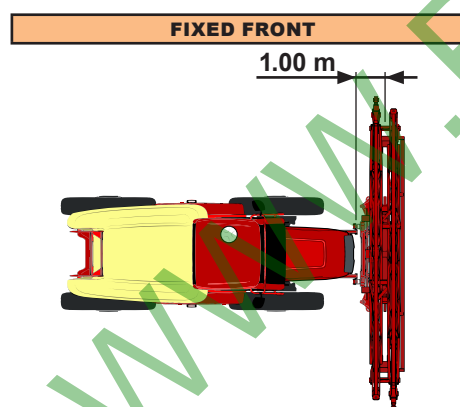
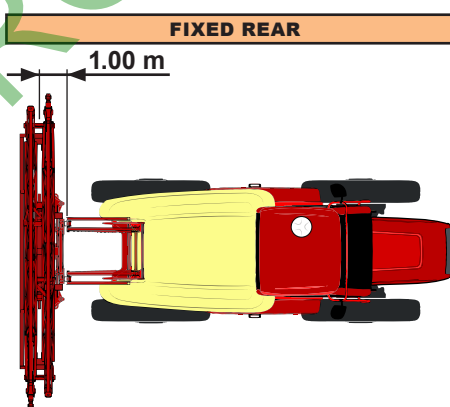

Fig. 54
Fig. 55
- Enter the measurement between the connection point of the boom and the point of application (Fig. 54) (Fig. 55).